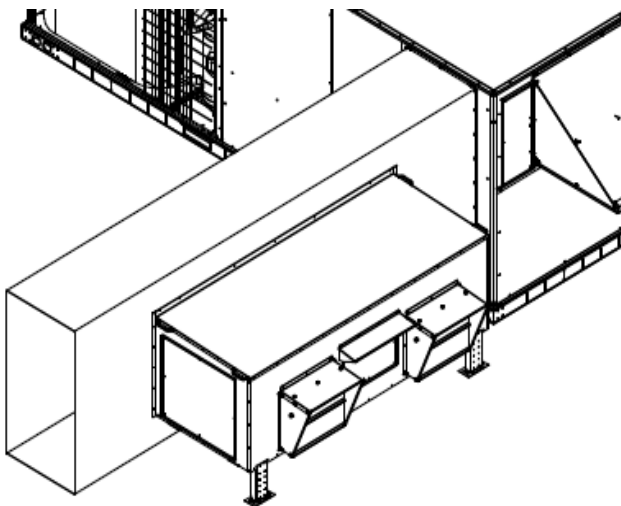

Fig. 4 - Typical Large Horizontal Power Exhaust Installation
4. Mount the Power Exhaust assembly to the duct with the provided screws and caulk all seams to ensure weather tight seal. Field fabricated support legs, or other support mechanism may be required. See Fig. 4.